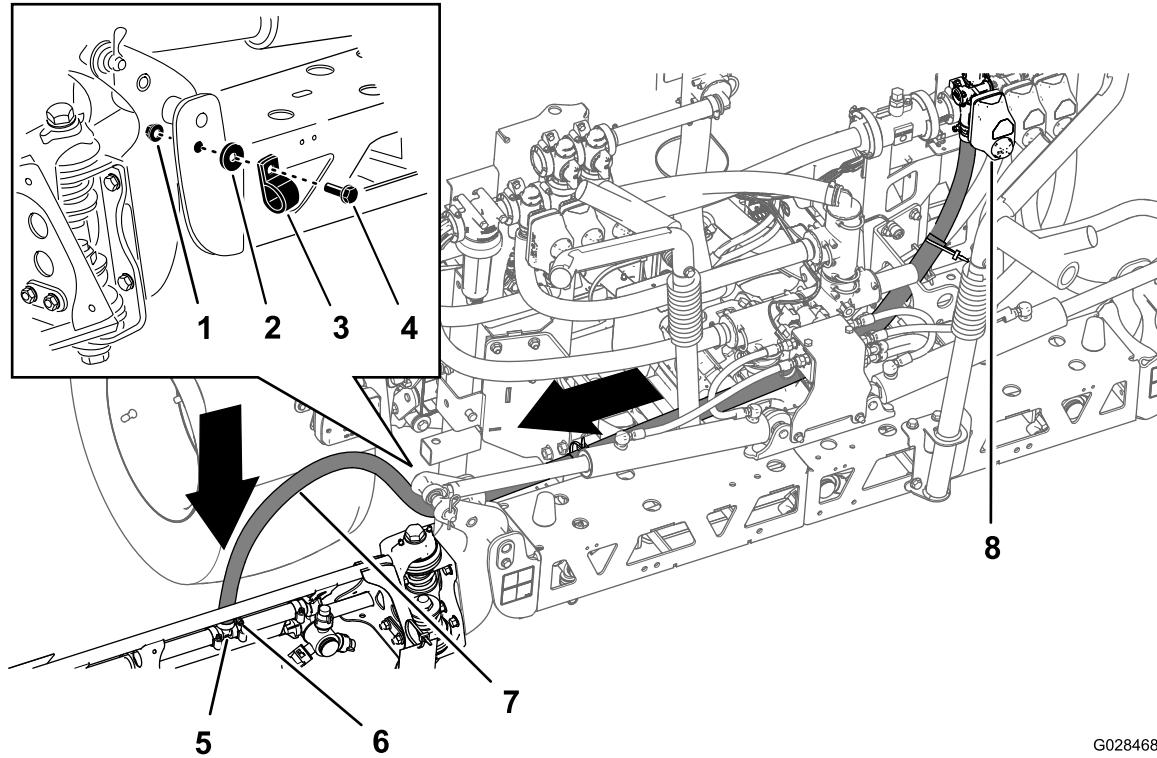
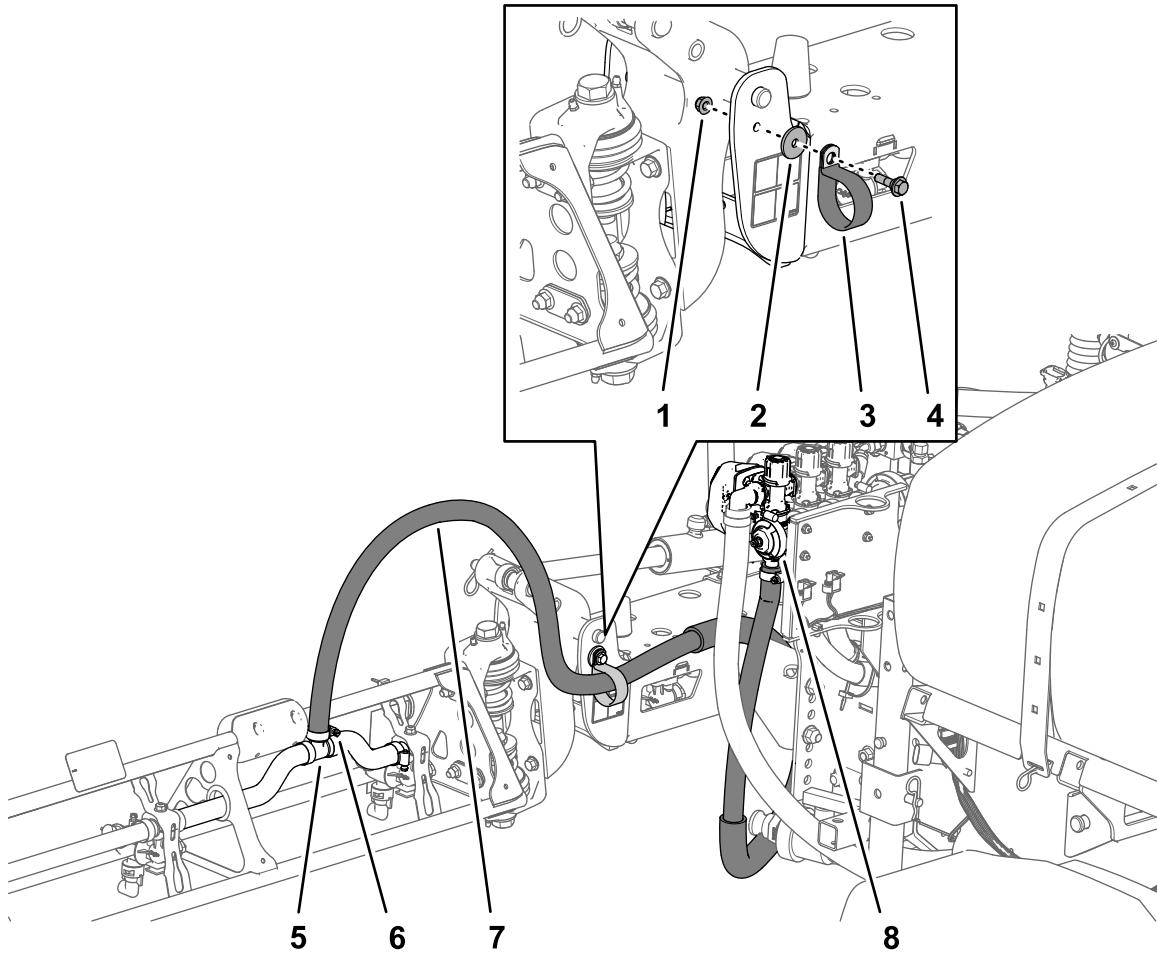

Figure 42
Figure 43
1. Route the boom-section hoses as shown in Figure 42 and Figure 43.
2. Secure the boom hoses to the front side of the center boom section (Figure 42 and Figure 43) with 1 R-clamp, 1 shoulder bolt (5/16 x 1 inch), 1 locknut (5/16 inch), and 1 washer (5/16 inch).
3. Install the boom section hose over the barbed T-fitting at the boom section and secure the hose with a hose clamp (Figure 42 and Figure 43).